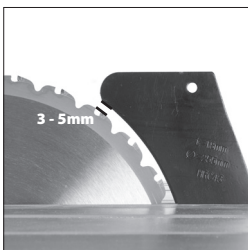

Fig. 16
- Adjust the Riving Knife so that it is between 3 – 5mm from the saw blade. The tip of the riving knife shall not be lower than 5mm from the tooth peak. (**Fig. 16**).